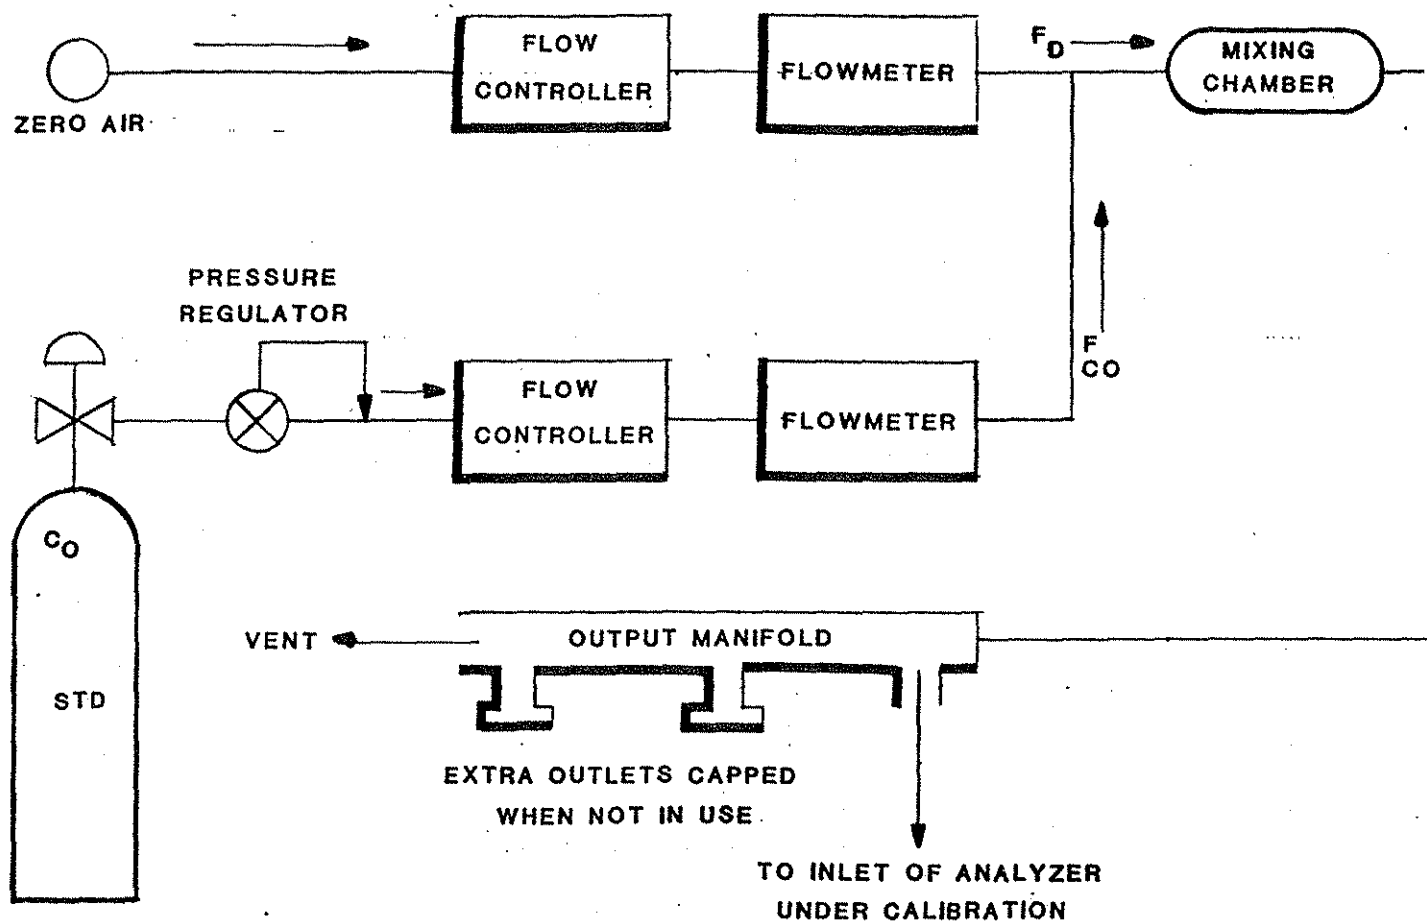

Figure A-1 Multipoint Calibration Set-up
Either of two methods may be used for dynamic multipoint calibration of the analyzer. One method (illustrated in Figure A.1) uses a single certified standard cylinder of CO, diluted as necessary with zero air to obtain the various calibration concentrations needed. An alternate method uses individual certified standard cylinders of CO for each concentration needed.
1. A dilution system similar to the one depicted in Figure A.1 (such systems as Dasibi Models 5009-CP or 1005-C2 or 5008) provide accurate and repeatable calibration atmospheres.
1. Assemble a dynamic calibration system such as shown in Figure A-1. References to analyzer responses in the procedure given below refer to recorder to data device responses.